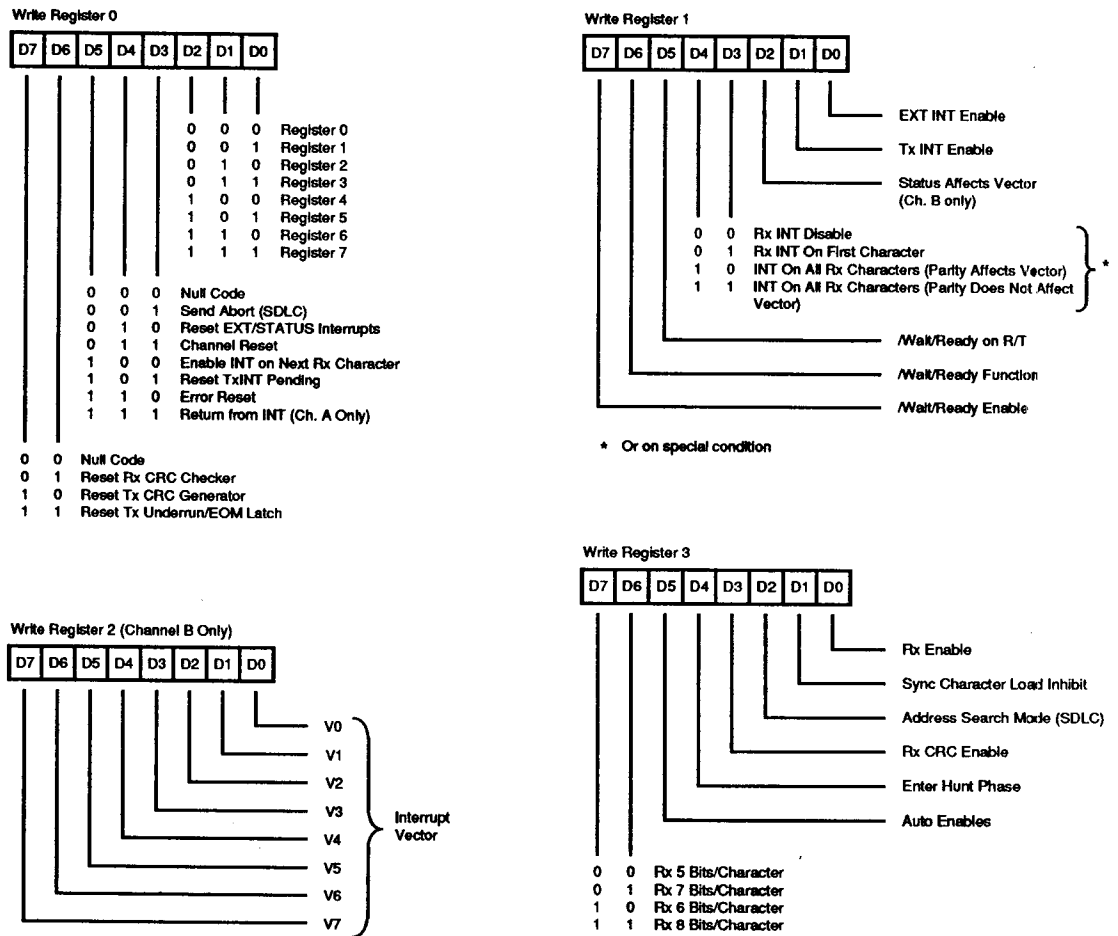

Figure 21. SIO Write Registers
**Write Registers.** The SIO Channel B contains eight write registers while Channel A contains only seven that are programmed to configure the operating mode characteristics of each channel. With the exception of WR0, programming the write registers is a two step operation. The first operation is a pointer written to WR0 which points to the selected register. The second operation is the actual control word that is written into the register to configure the SIO channel (Figure 21).